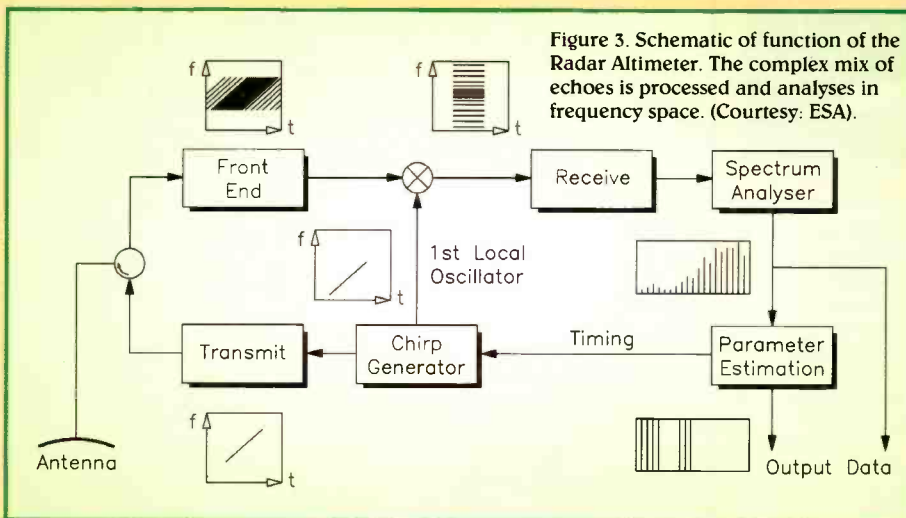

Figure 3. Schematic of function of the Radar Altimeter. The complex mix of echoes is processed and analysed in frequency space. (Courtesy: ESA).
The Radar Altimeter (RA) is primarily designed to make precise measurements of echoes from ocean and ice surfaces. The mechanism of the RA system is outlined in Figure 3. A chirp generator uses a surface acoustic wave (SAW) device driven at a pulse repetition frequency of 1.020Hz. The chirp comprises a frequency space as shown in the photograph. This signal is then up-converted to 13.8GHz and then on detection, down-converted and mixed with a fresh chirp signal. This results in a series of single frequencies in the time interval of the received pulse. From this is derived the spectrum of 64 points over a period of 3.03ns. A single value is derived as the average of fifty successive pulses. The full bandwidth of the spectrum is equivalent to a height window of about 30m in the ocean mode. The wave height can be interpreted from the distribution of the frequencies. The RA system operates at a power of 55W.